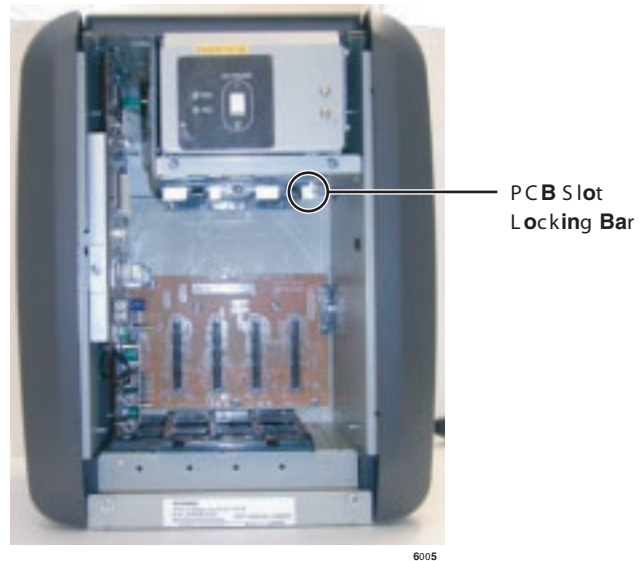

Figure 2-18 PCB Slot Locking Bar
3. Slide the PCB Slot Locking Bar to the right, then insert each of the PCBs; push the PCBs firmly toward the motherboard, making sure that the connectors are secured (see Figure 2-18). Lightly tug on each PCB to make sure that it's installed securely.